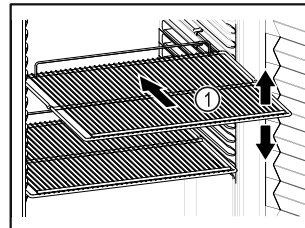

Fig. 56 Example illustration
- If there are adjustable shelves Fig. 56 (1), position them as required.